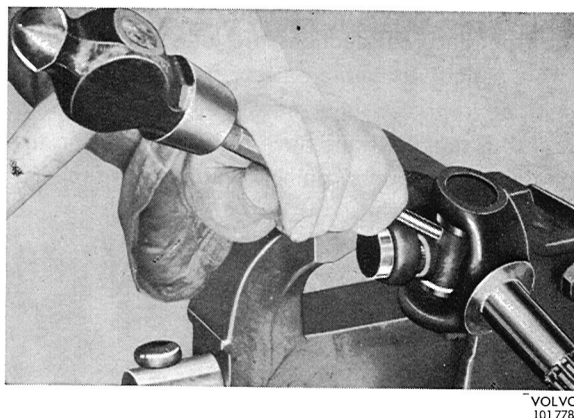

Fig. 4-138. Spider removal, I
4. Then drive the spider as far as it will go in the opposite direction, see Fig. 4-138.